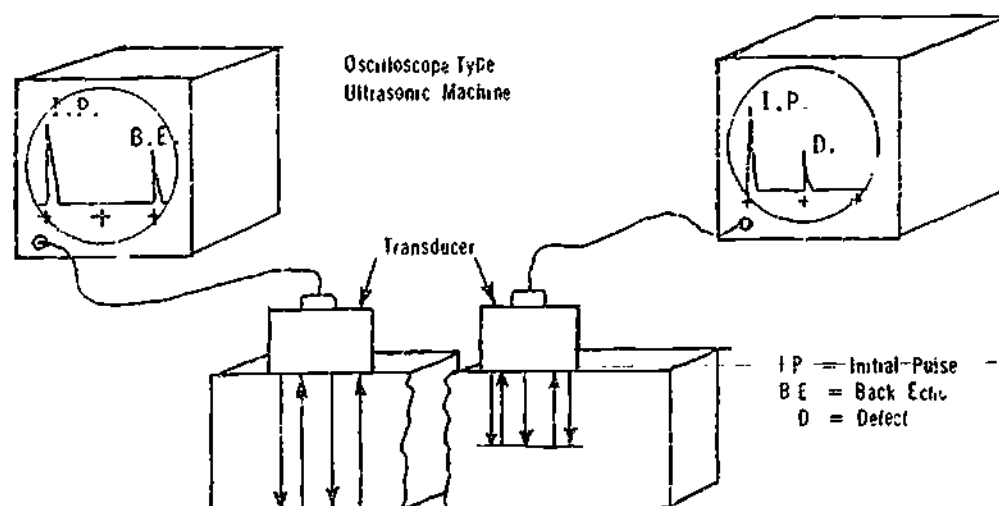

Figure 9-6. Straight Beam Ultrasonic Method
**Selection of Transducers** The selection of the transducer size and frequency is generally based on the specimen material. Frequencies of 5 — 5 megahertz are generally used on heavier metals such as steel and copper, while frequencies of 5 — 15 megahertz are generally used on lighter alloys such as aluminum and magnesium. The transducer size controls the width of the beam emitted from it. For thickness measurements, straight-beam transducers are always used (Figure 9-6). (The beam is passed into the material perpendicular to the entry surface.) For weld zones and other components, where defects are likely to occur in oblique